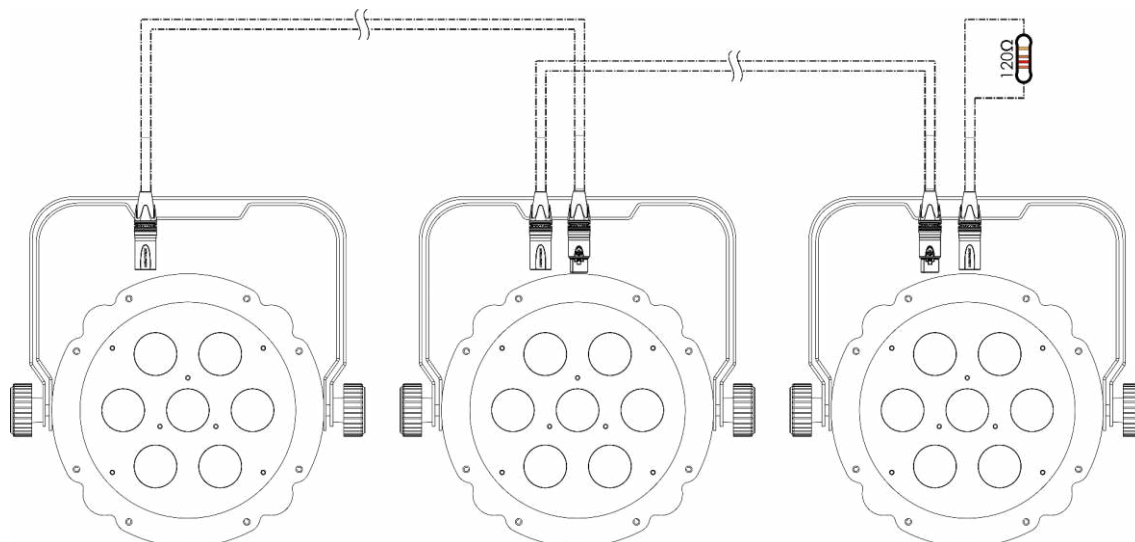

Fig. 10
- 02) Repeat step 1 to connect all devices as shown in Fig. 10. The first connected device will be automatically recognized as the master device.